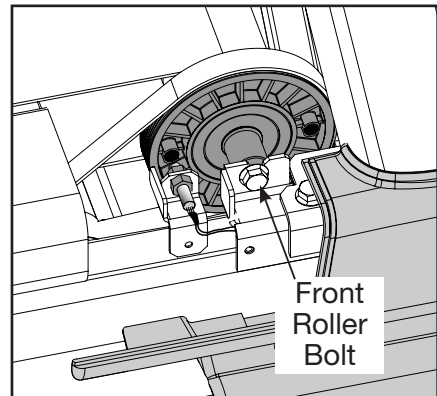

Figure 11
- C. Using a 9/16" socket wrench loosen the right front roller bolt. See Figure 11. **NOTE:** The right bolt will stay on the front roller. You do not need to remove it for this procedure.
- D. Using a 9/16" socket wrench loosen the left front roller bolt See Figure 11.
- B. Install the bolt, bronze bushing and nut for each side of the roller into position. See Figure 11.